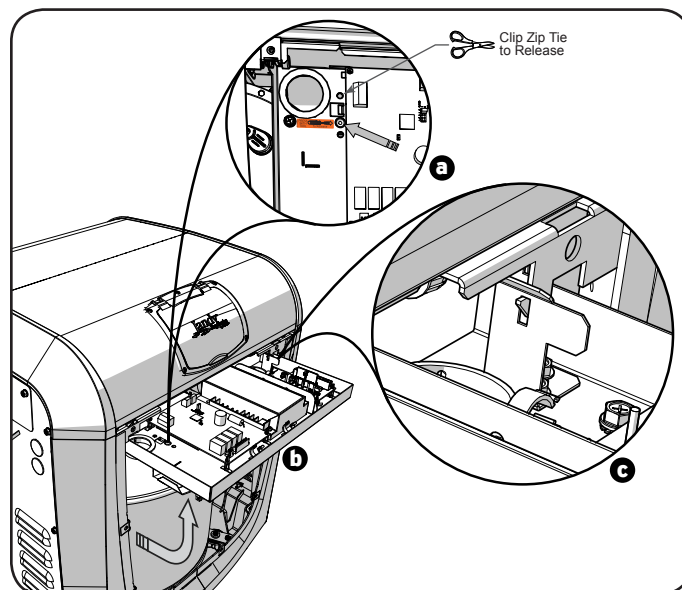

Figure 4. Access and Latch Raceway
- Using a screwdriver or comparable tool; press into the raceway release orifice until the raceway latch releases and the raceway swings free. See Figure 4 (a).
- Swing the raceway up into a horizontal position. See Figure 4 (b).
- Latch raceway into position using the bracket. See Figure 4 (c).